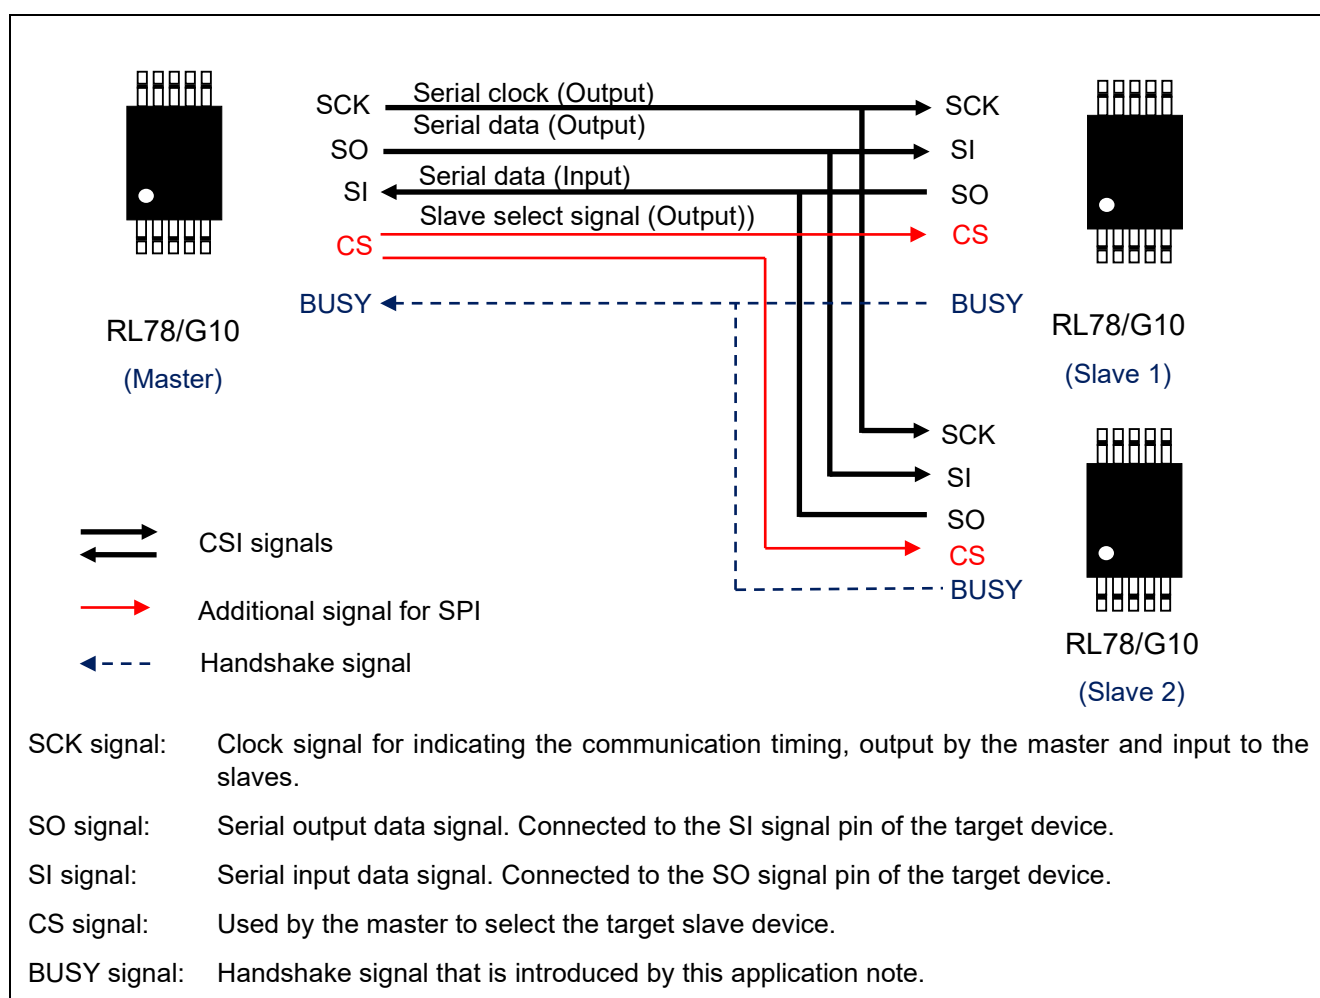

Figure 1.1 Outline of CSI Communication
CSI is a protocol for clock synchronous serial communication using three signal lines, namely, serial clock (SCK), serial input data (SI), and serial output data (SO). SPI (Serial Peripheral Interface) uses an additional signal, **CS** (Chip Select), which is used to select the slave device. The relationship among these signals is shown in figure 1.1.